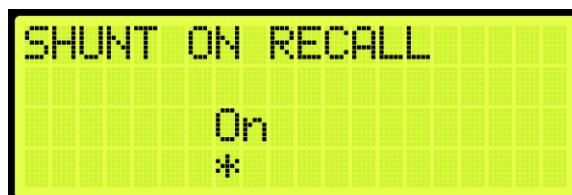

Figure 572: SHUNT ON RECALL Menu
5. From the SHUNT ON RECALL menu, scroll and select On (See Figure 572).